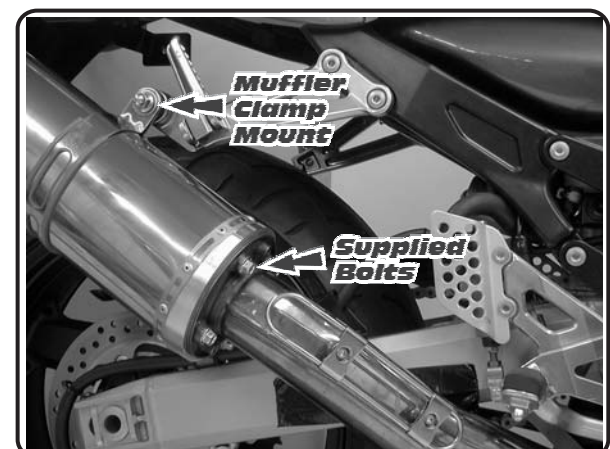

Fig. 3
- 5 Mount clamp to stock muffler bracket using stock bolt and washer. (See Fig. 3&4) Torque bolt to 2.5 kg-m (18 lb-ft)